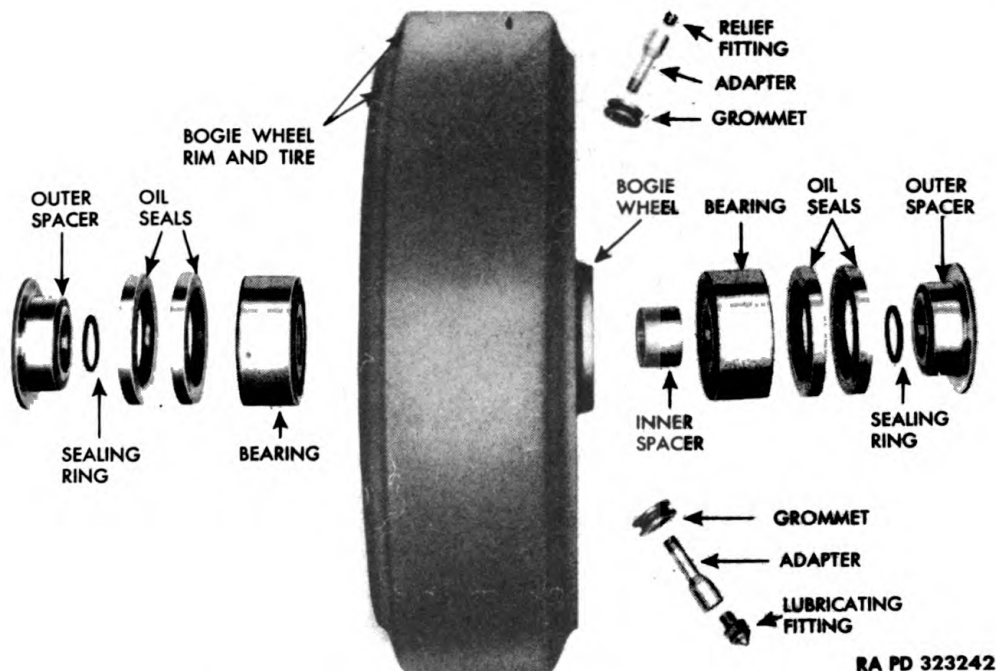

Figure 248 — Bogie Wheel Disassembled
b. Inspect and Repair (figs. 248, 249, and 250).